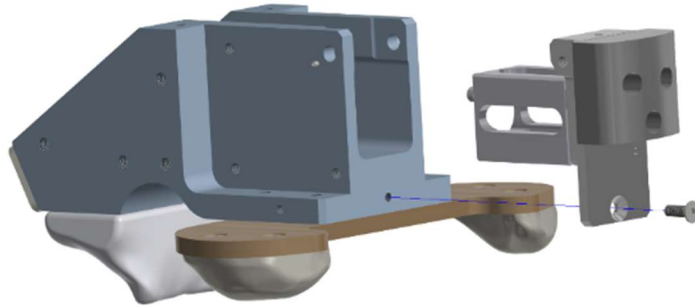

Figure 8-35. Install the Pelvis DAS Mounting Plate (474-4005) to the Center Pelvic Bone (474-4541)
- 8.3.8 Install the Pelvis DAS Mounting Plate (474-4005) to the Center Pelvic Bone (474-4541) with one M4 X 0.7 X 12 LG. FHCS from (Figure 8-35).